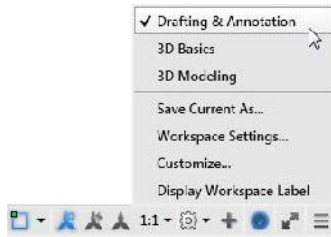

FIGURE 1.4 : Selecting the Drafting & Annotation workspace
1. Click the Workspace Switching tool from the status bar, and choose Drafting & Annotation, as shown in Figure 1.4. Alternatively, command-line users can launch the WSCURRENT command by entering the following: